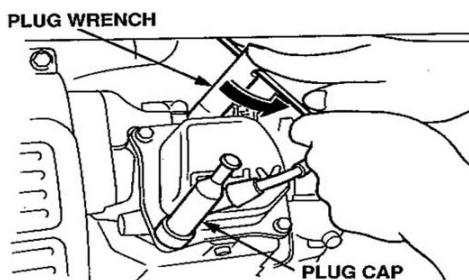

Fig 15
3. Use a spark plug wrench to remove the spark plug. (Fig 15)